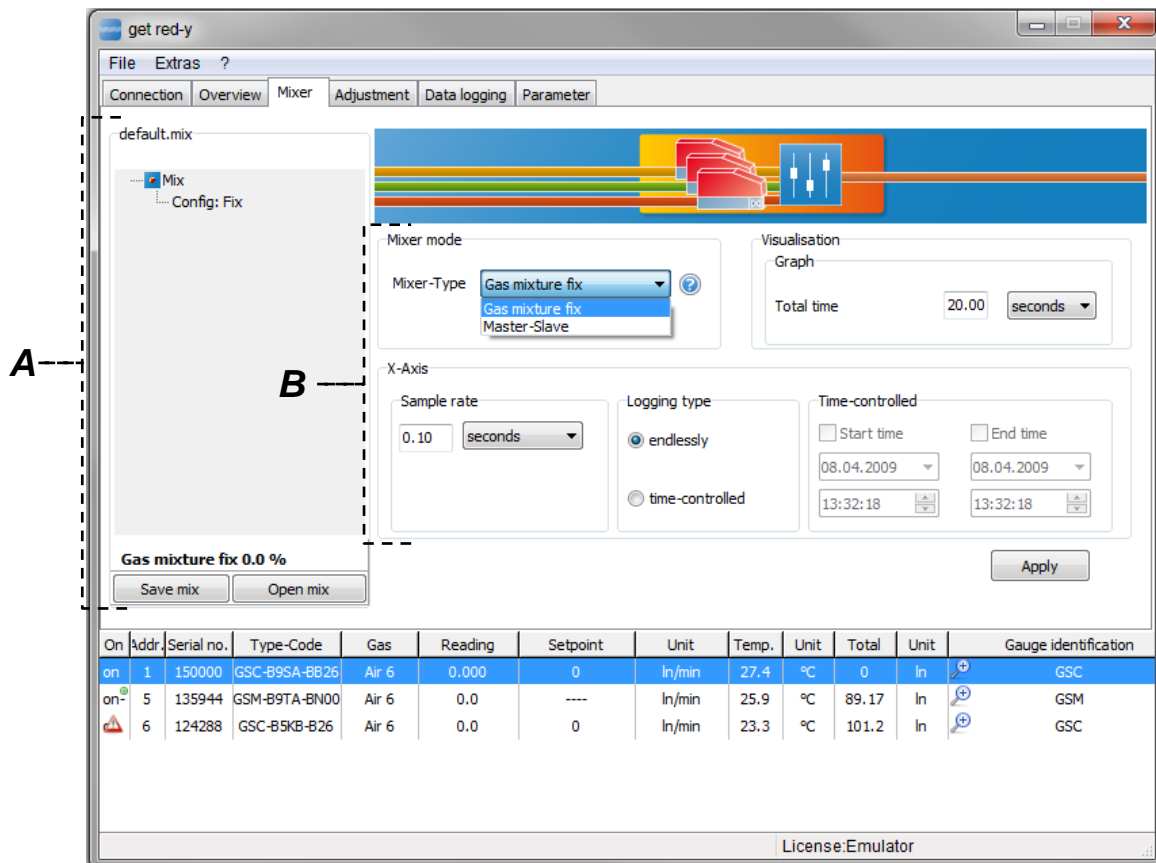

Figure 46:: Representation of the Mixer Tab
A. Projection tree of the mixer: The projection tree is the central administration center for the mixer. A correctly configured mixture of gas percentages can be saved with the [Save mix] and [Open mix] buttons and opened again later. Keep in mind that the saved device configuration is also present in the Device List when you are opening a mix. If you select Configuration node, View **B** appears (See Figure 46).